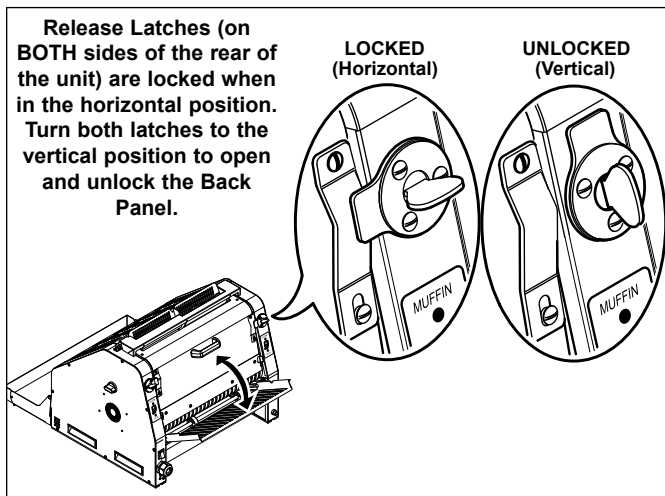

Figure 8. Back Panel Release Latches
1. Face the rear of the unit. Turn the two Back Panel Release Latches (Figure 8) to the vertical position and open the Back Panel.